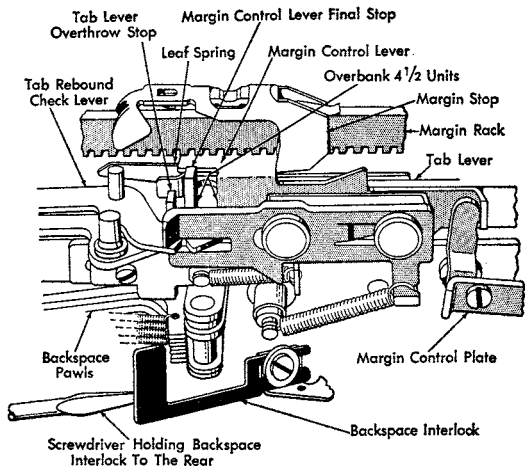

Figure 29. Overbank Adjustment
11. MARGIN RACK. Adjust to the left or right so that when the carriage is returned to the left margin there will be $4\frac{1}{2}$ units of overbank between the margin control lever and its final stop (Figure 29). Correct overbank can be observed by counting the number of backspaces in this area. When observing this adjustment, hold the backspace interlock to the rear away from the backspace pawls. Otherwise, the interlock may keep the backspace pawls from operating.